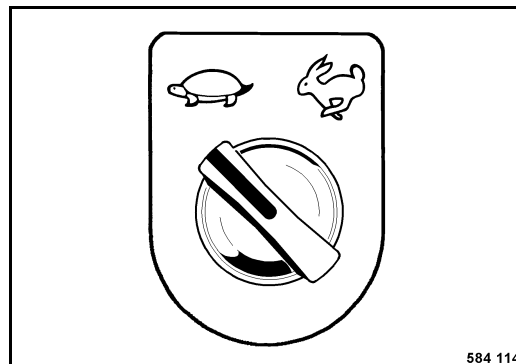

Fig. 55
- Select the desired travel speed range (Fig. 55).